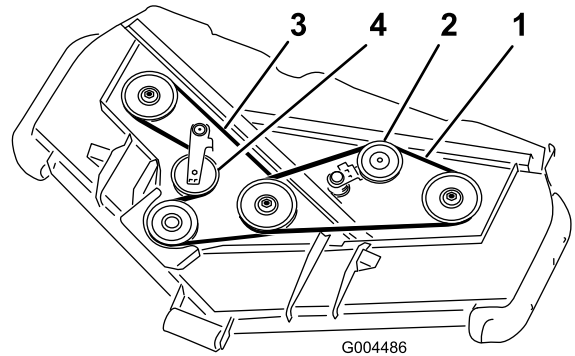

Figure 79
3. Using a breaker bar or similar tool, move the idler pulley for the top belt away from the top drive belt to release the belt tension and slip the belt off the pulleys (Figure 79).
4. Using a breaker bar or similar tool, move the idler pulley for the bottom belt away from the bottom drive belt to release the belt tension and allow the belt to be slipped off the pulleys (Figure 79).
5. Route a new belt around the gearbox pulley, bottom spindle pulleys, and idler-pulley assembly as shown in Figure 79.
6. Route a new belt around the top spindle pulleys and idler-pulley assembly as shown in Figure 79.